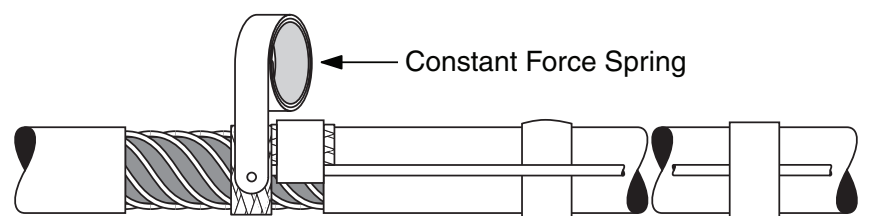

Figure 4
5. Wrap copper braid around concentric wires, rewinding around itself. Pull (to unwrap) the constant force spring (in kit) around the copper braid and rewrap around itself. (Figure 4)